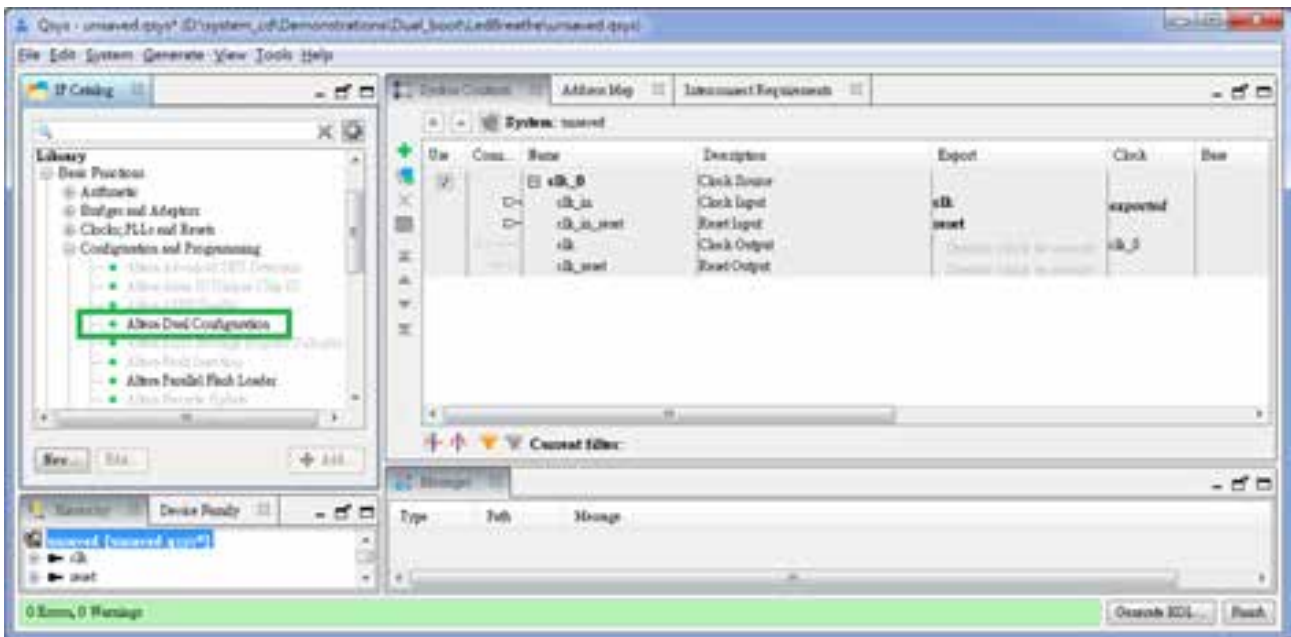
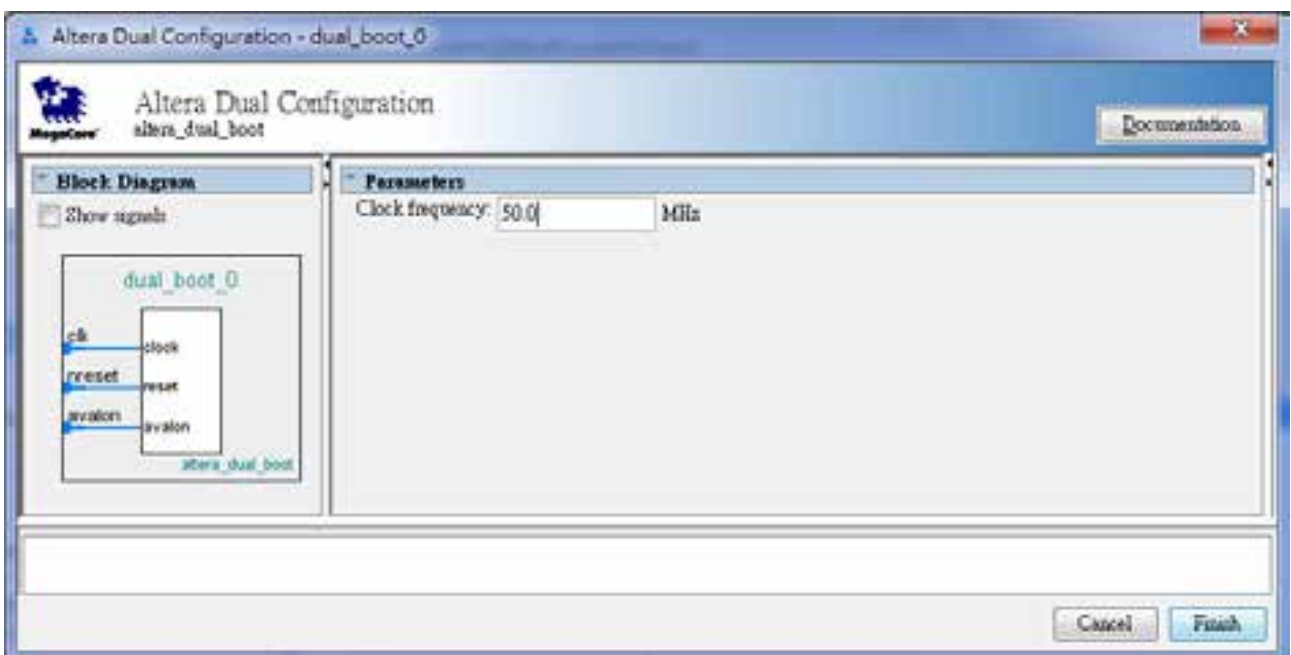

Figure 6-5 Select Altera Dual Configuration IP and click.
Figure 6-6 Open wizard and click Finish.
2. Please choose **Library > Basic Function> Configuration and Programming > Altera Dual Configuration** to open wizard of adding dual boot IP. See **Figure 6-5** and **Figure 6-6**.